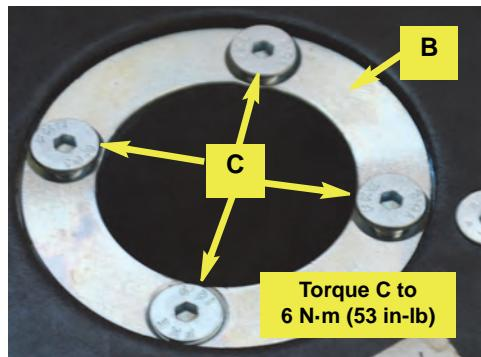

Figure 1b: Securing the shaft adapter
- Using the four countersunk screws **C**, secure the shaft adapter **B** in the steering wheel. Torque the screws to **6 N·m (53 in-lb)** (Figure 1b).